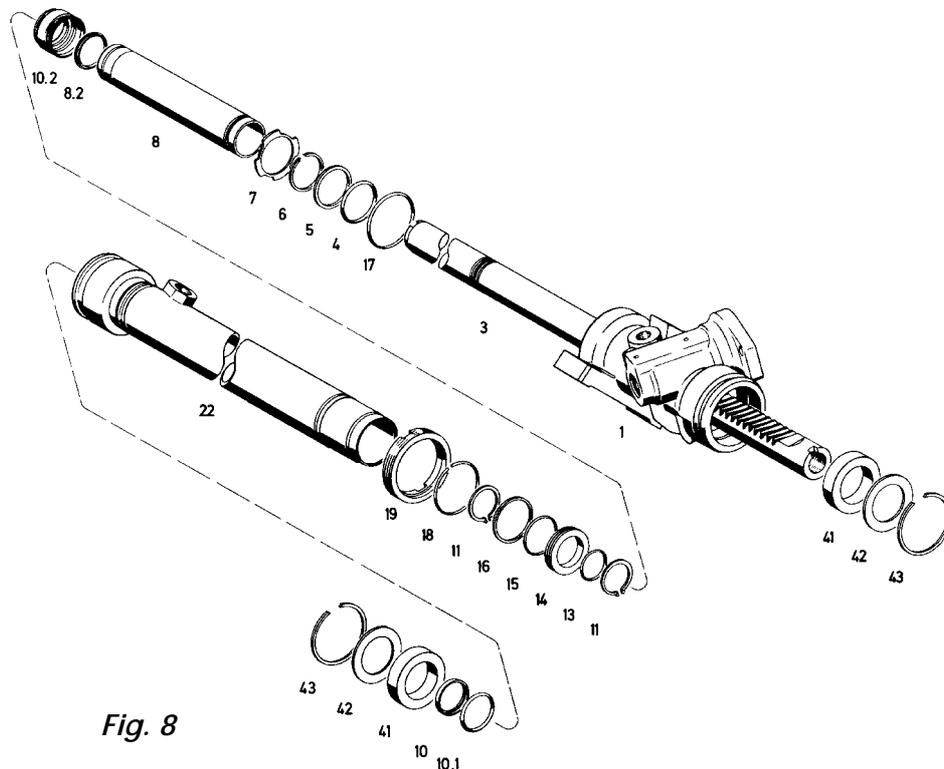

Fig. 8
Using tool [4], screw out the threaded ring (19) (**Fig. 8**).
6.1 Versions with cylindrical tube (22)
Pull the rack (3) and the spacer tube (8) out of the cylindrical tube (22) (**Fig. 8**).
Version without guide ring (9) (**Fig. 8**)